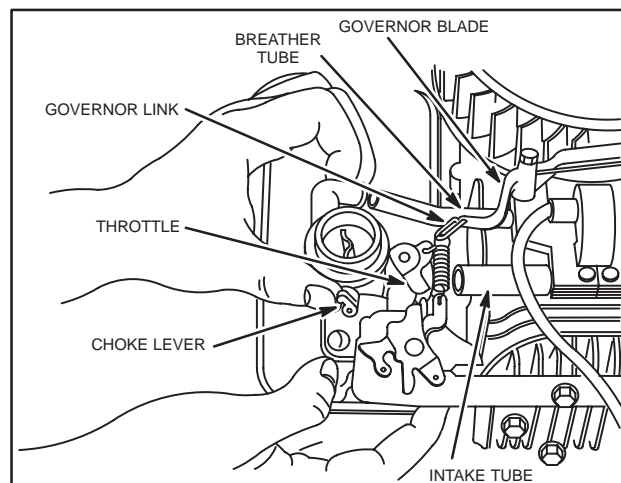

Fig. 249 – INSTALL CARBURETOR AND TANK ASSEMBLY
- Hold choke lever as shown in Fig. 249, so it does not catch on control plate.